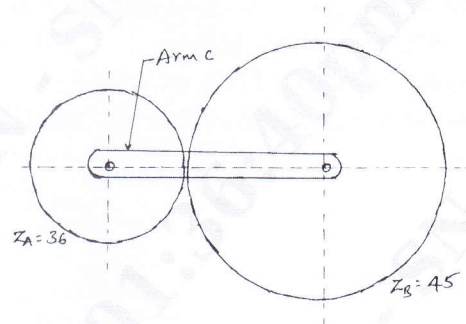

Fig.Q8(b)
b. The arm of an epicyclic gear train rotates at 100 rpm in anticlockwise direction. The arm carries two wheels A and B having 36 and 45 teeth respectively. The wheel A is fixed and the arm rotates about the centre of wheel A. Find the speed of wheel B. What will be the speed of B if the wheel A instead of being fixed, makes 200 rpm clockwise? [Refer Fig.Q8(b)]